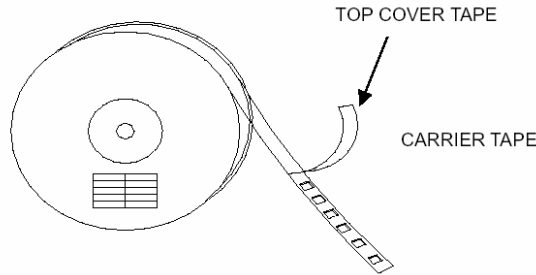

Figure 1 Taping Structure
- 1.2.1 Carrier Tape: see Figure 1